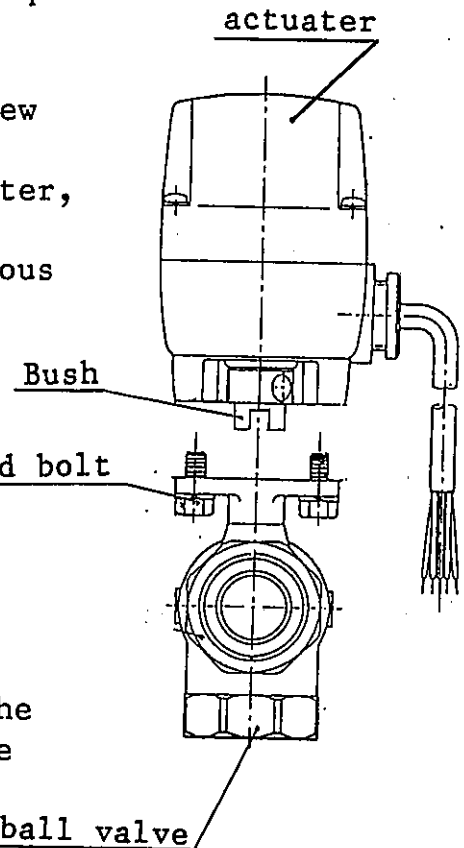

Fig.7
- (2)-3. Actuator and ball valve are separated, removing the Hex. head bolt by monkey wrench as shown in Fig. 7